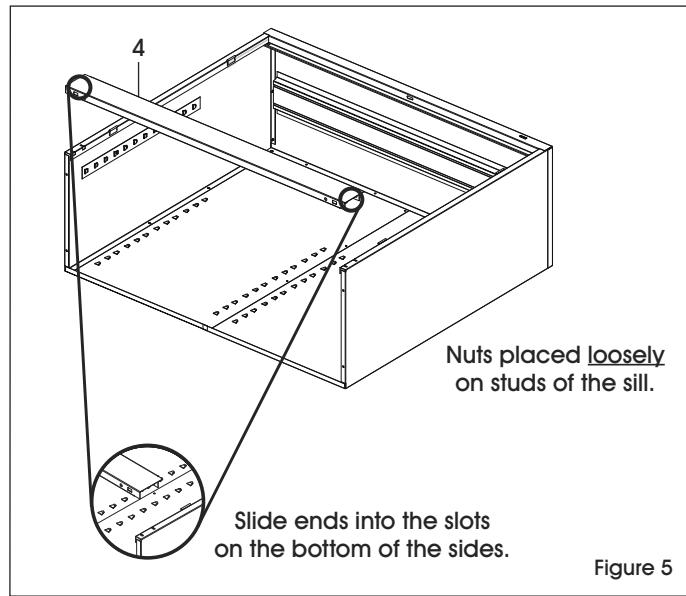

Figure 5
5. Attach the sill (4) to the sides. Place nut loosely on each of the studs and slide the ends of the sill into the slots on both sides of the unit. Then, securely tighten the nuts. (See Figure 5)